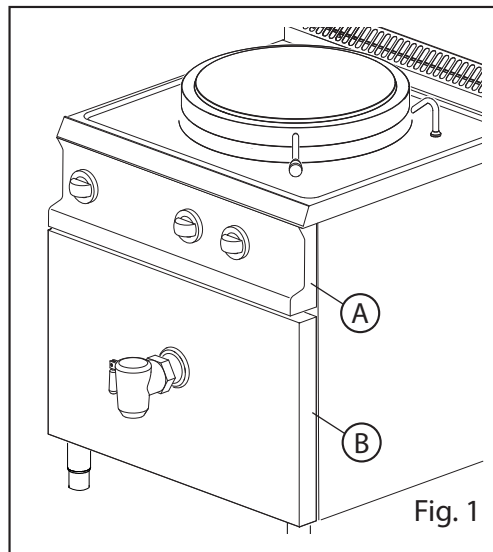

Fig. 1
1. Remove the knobs and frontal panel (Fig. 1/A)
- Remove frontal panel (Fig. 1/B)
1. frontal panel (Fig. 1/B) and knobs (Fig. 1/A)